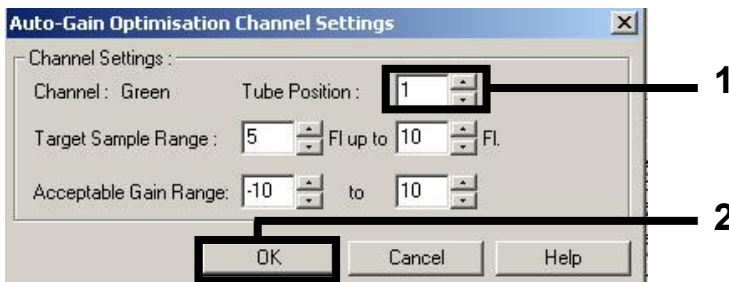

Figure 2. Setting the tube position.
2. Set the tube position for a tube for the first *artus* assay (e.g., EBV). Set the tube position for all fluorescence channels, and click **OK** (Figure 2).